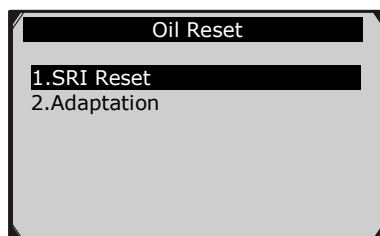
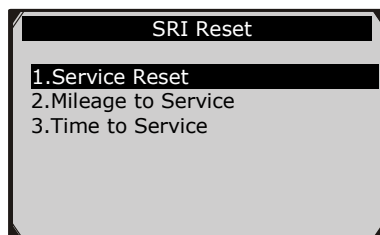
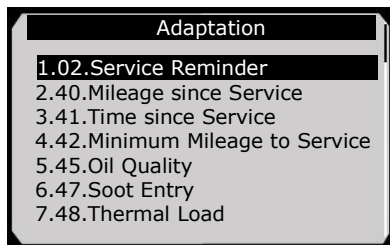

Figure 7.7
Figure 7.8
Figure 7.15
- 4) From Oil Reset menu (Figure 7.7), select **SRI Reset** function and press **OK** button. Then the screen shows as Figure 7.8.
- A. From SRI Reset menu (Figure 7.8), select **Service Reset** function and press **OK** button. The screen will display the preset maintenance information of the vehicle. The information items vary with different vehicles.
- B. From SRI Reset menu (Figure 7.8), select **Mileage to Service** function and press **OK** button. The screen will display the
- C. From SRI Reset menu (Figure 7.8), select **Time to Service** function and press **OK** button. The screen will display the preset maintenance information of the vehicle. The information items vary with different vehicles. (Figure 7.9)
- 5) From Oil Reset menu (Figure 7.7), select **Adaptation** function and press **OK** button. Then the screen shows as Figure 7.15.